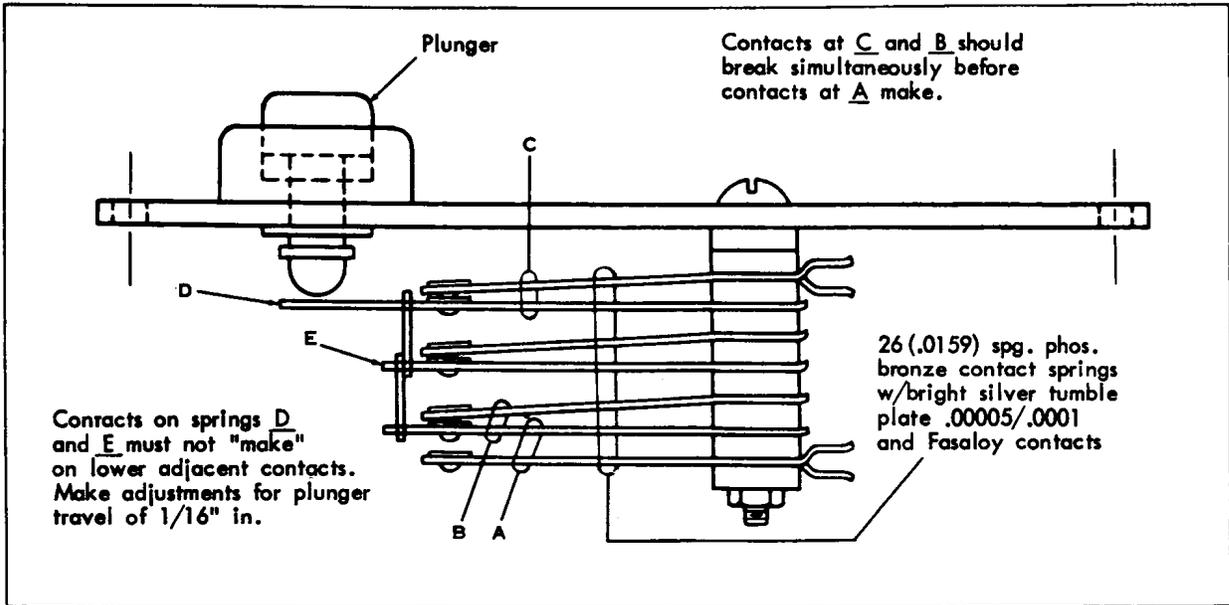

FIG. 4
3.48 To remove the switchhook from its mounting, remove two screws from each end of the switchhook cover. See Figure 4 for contact adjustment.
- Figure 4 Handset-Switch Adjustment